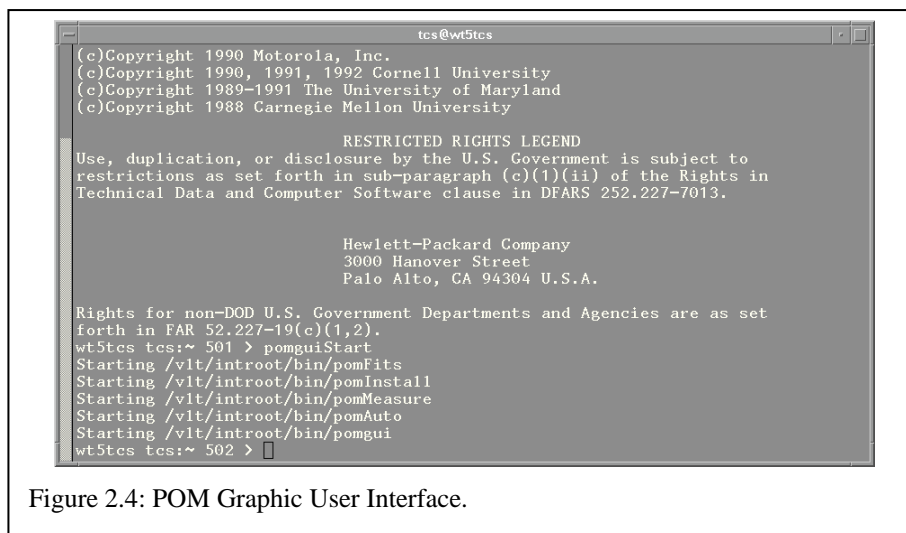
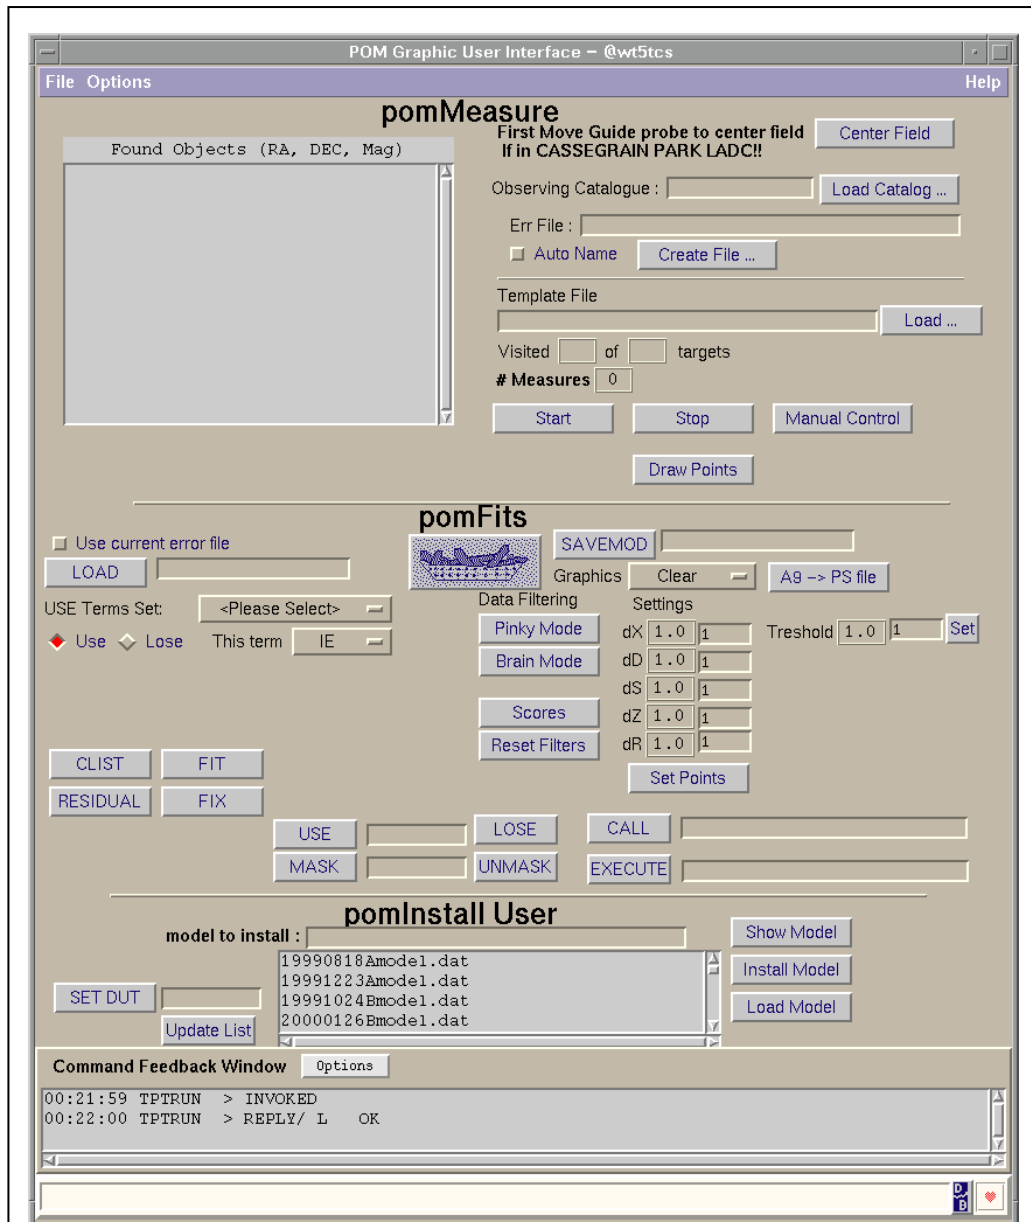

Figure 2.4: POM Graphic User Interface.
Figure 2.5: POM Graphic User Interface: Man Panel
1. To start the programs, and the GUI (Figures 2.5 and 2.6), run on a TCS xterm on wt5tcs the script: pomguiStart (Figure 2.4).